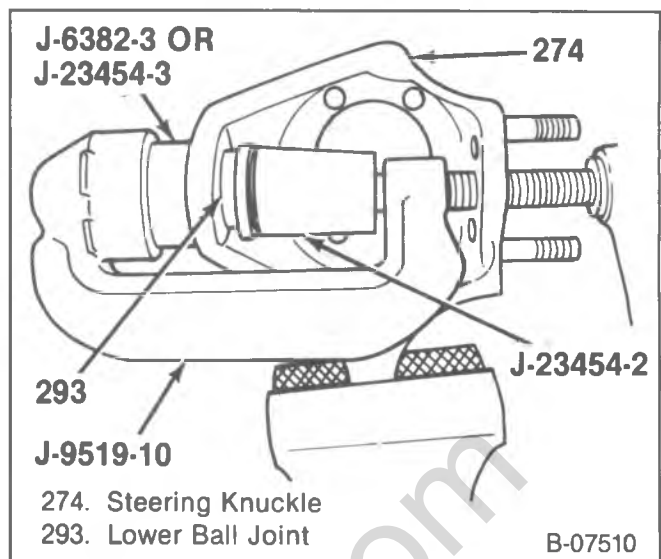
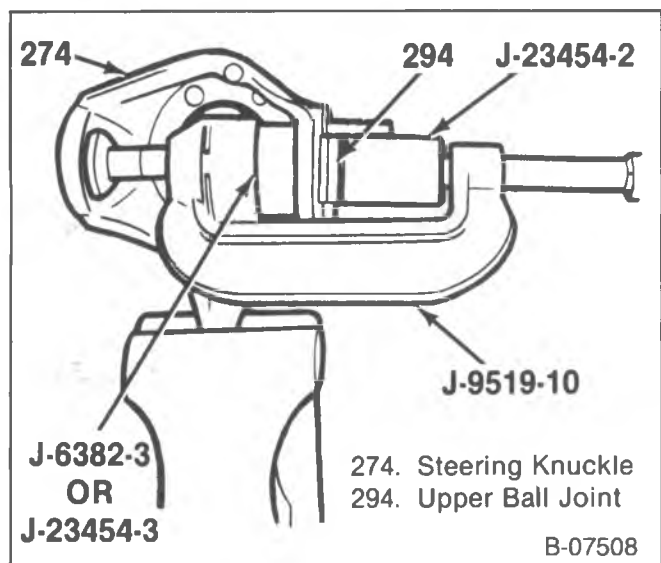
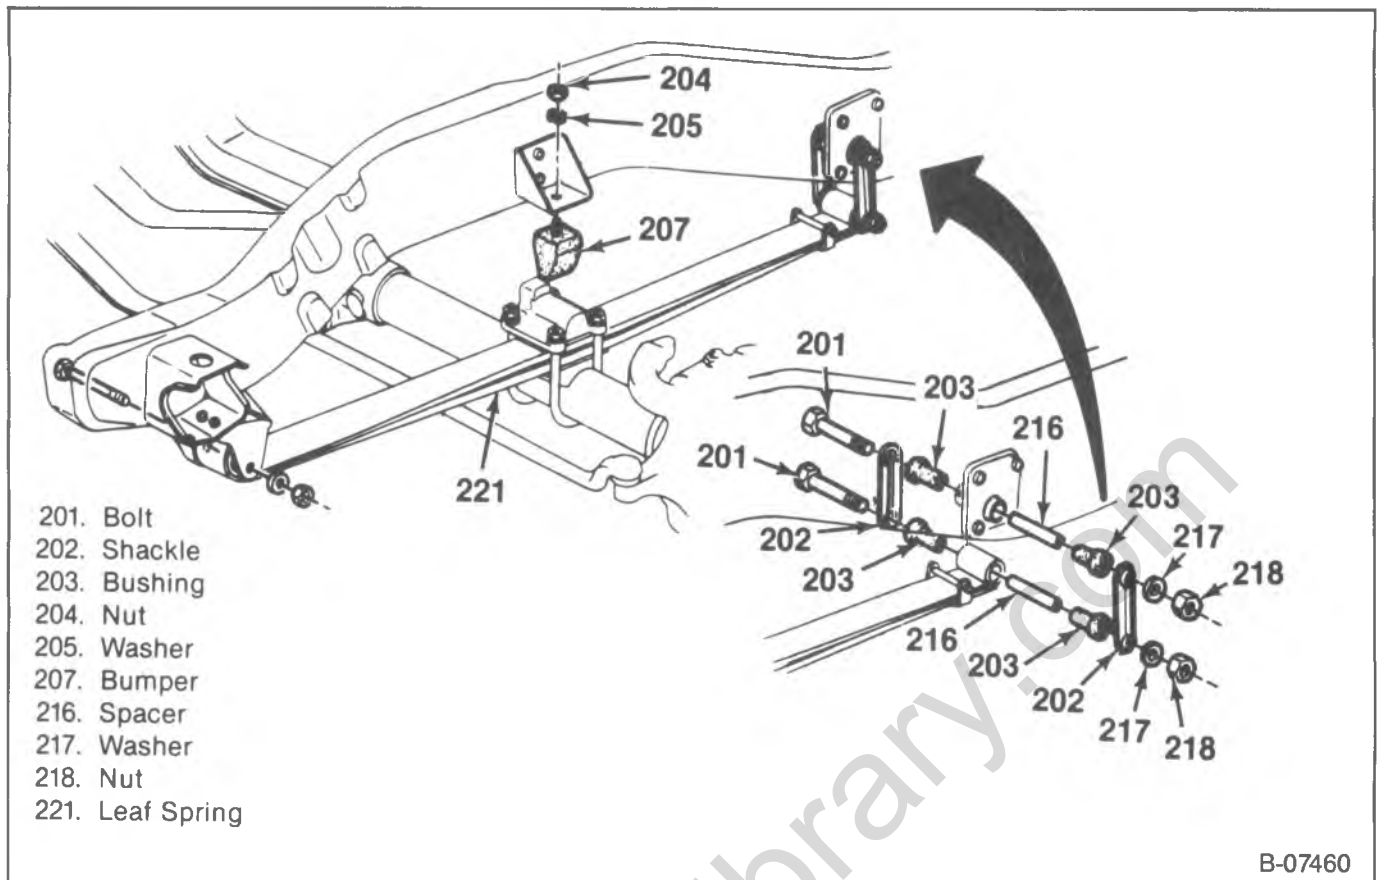

Figure 61—Installing the Lower Ball Joint
Figure 62—Installing the Upper Ball Joint
Figure 63—Leaf Spring Attaching Parts
- 1. Lower ball joint (293) into the steering knuckle (274).
- Use J-9519-10, J-23454-2, and J-23454-3 or J-6382-3 (figure 61). Tighten until the ball joint fully seats.
- 2. Upper ball joint (294) into the steering knuckle (274).
- Use J-9519-10, J-23454-2, and J-23454-3 or J-6382-3 (figure 62). Tighten until the ball joint fully seats.
- 3. Steering arm (290) and steering knuckle (274).
1. Spring (221) from the frame.
- Nut (218), washer (217), shackle (202), bolt (201), bushings (203) and spacer (216) (figure 61).
2. Spring (221) from the hanger (241).
- Nut (239), washers (240), and bolt (242) (figure 61).
3. Spring (221) from the axle.
- For V10/1500–20/2500 and the left side of V30/3500 models, remove nuts (222), washers (223), U-bolts (227), plate (224) and the spacers (226).
- For the right side of V30/3500 models, remove the bolts (248), nuts (222), washers (223), U-bolt (227), plate (224) and the spacers (226) (figure 63).
4. Shackle (202) from the spring (221).
- Nut (218), washer (217), bolt (201), bushings (203) and spacer (216) (figure 63).
- For V10/1500–20/2500 models and the left side of V30/3500 models, attach the lower spacer (226), plate (224), U-bolts (227), washers (223) and nuts (222) (figure 63).
- For the right side of V30/3500 models, attach the lower spacer (226), plate (224), U-bolt (227), washers (223), bolts (248) and nuts (222) (figure 63).